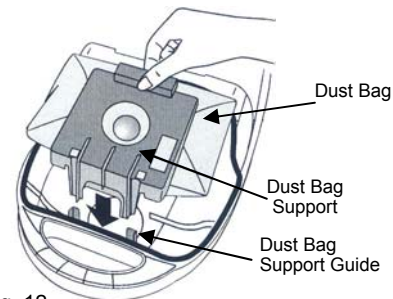

Fig. 12
- Insert the dust bag support back into the dust bag support guides in the dust bag compartment making sure that no part of the bag is in contact with the rubber seal and that it is hanging correctly inside the dust bag compartment. (Fig. 12)